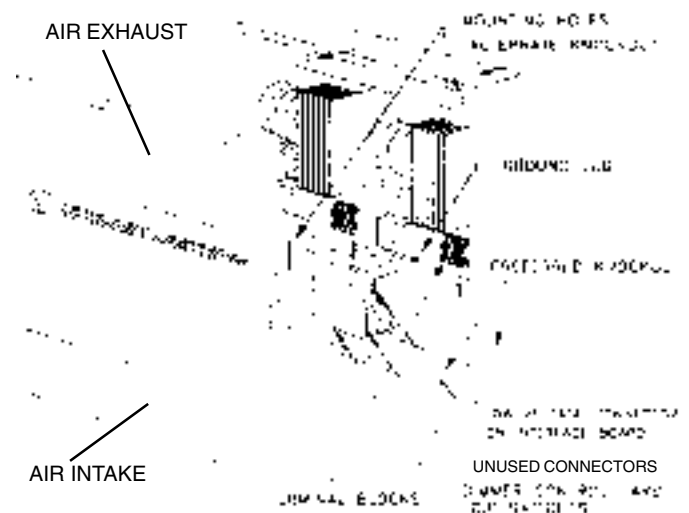

Figure 1 - Exploded View of Dimmer Pack
6. Do not block air intake and air exhaust or cabinet overheating will occur. See figure 1.
Mount the pack to structural members as required using the four holes that have been provided in the back of the pack. Refer to figure 1.
Choose desired location of input circuit entry and controlled circuit exit from the pack. See figure 1.